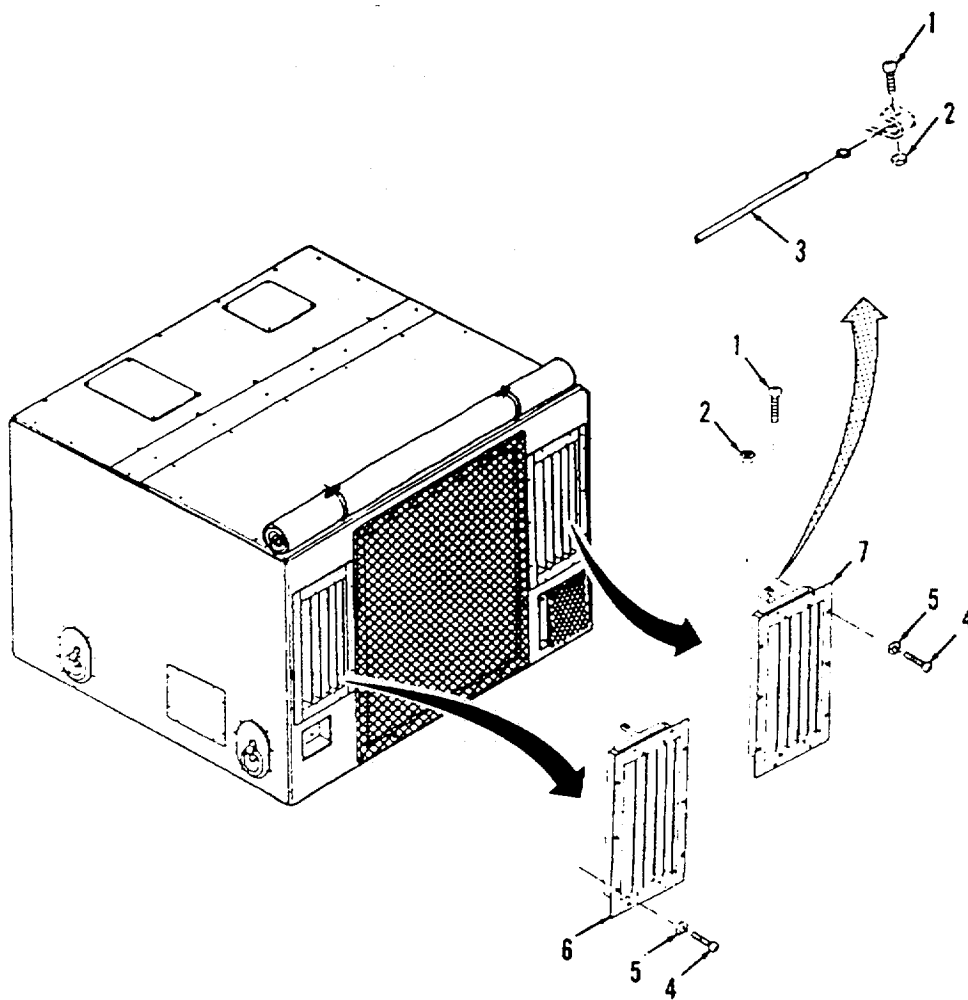
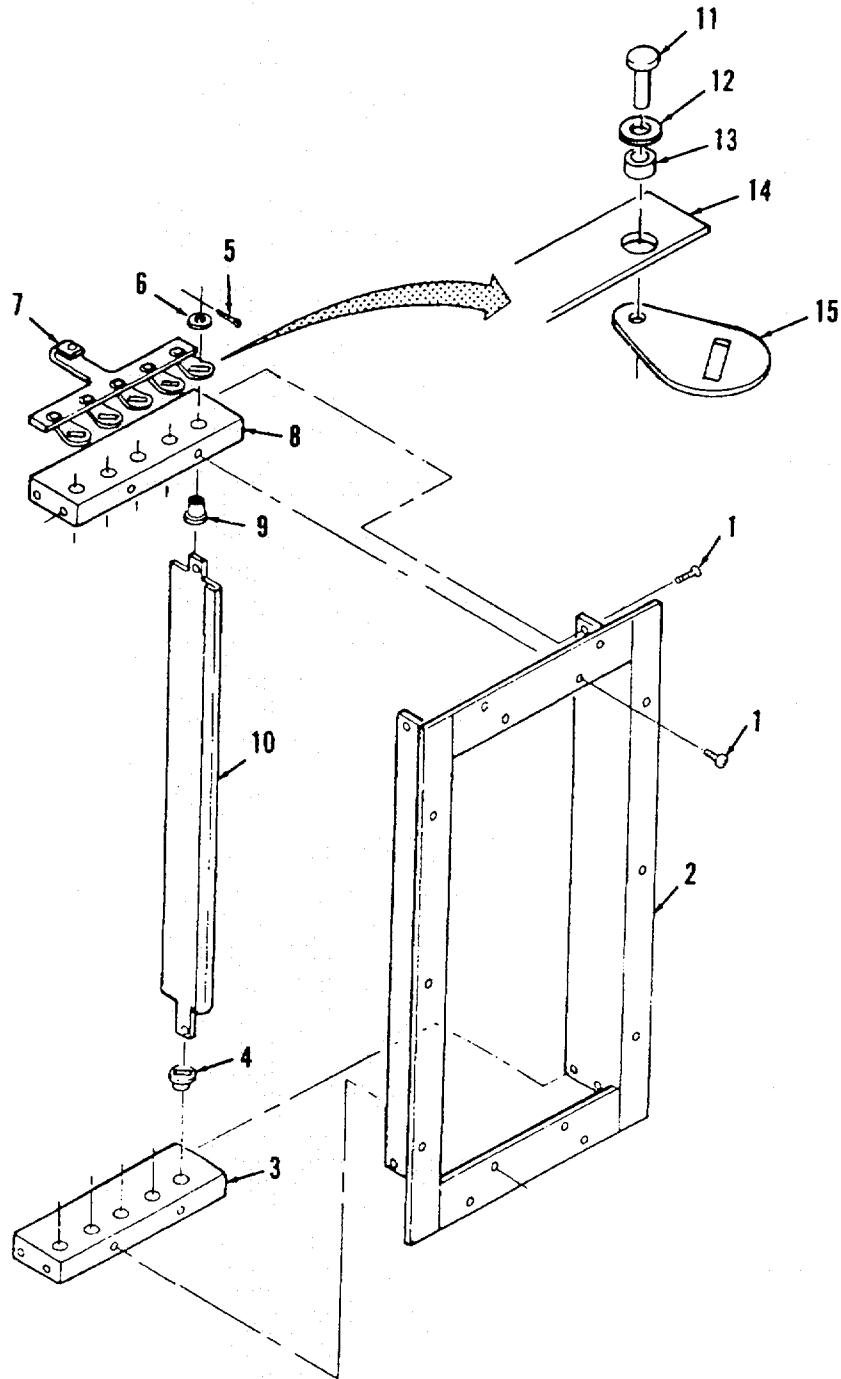

Figure 3-10. Condenser Exhaust Louvers.
Figure 3-11. Condenser Exhaust Louvers Disassembly.
**a. Removal.** (Refer to Figure 3-10).
- (1) Remove two screws (1) and two nuts (2) to disconnect cables (3) from exhaust louvers (6 and 7).
- (2) Remove ten screws (4), ten lock washers (5), and right condenser exhaust louver (6).
- (3) Remove ten screws (4), ten lock washers (5), and left condenser exhaust louver (7).
**b. Disassembly.** (Refer to Figure 3-11).
- (1) Remove twelve screws (1) and louver frame (2).
- (2) Remove lower bearing plate (3) and five bearings (4).
- (3) Disassemble five pins (5), five washers (6), connecting link (7), upper bearing plate (8), five bearings (9), and five louver blades (10).
- (4) Remove five rivets (11) and then disassemble five flat washers (12), five spacers (13), link (14), and five louver blade arms (15).
**c. Assembly.** (Refer to Figure 3-11).
- (1) Assemble five louver blade arms (15), link (14), five spacers (13), and five flat washers (12) and then install five rivets (11).
- (2) Install five louver blades (10), five bearings (9), connecting link (7), five washers (6), and five pins (5) onto upper bearing plate (8).
- (3) Install five bearings (4) and lower bearing plate (3).
- (4) Install louver frame (2) and twelve screws (1).
**d. Installation.** (Refer to Figure 3-10).
- (1) Install left condenser exhaust louver (7), ten lock washers (5), and ten screws (4).
- (2) Install right condenser exhaust louver (6), ten lock washers (5), and ten screws (4).
- (3) Place loops from cable (3) into louvers (6 and 7) and install two screws (1) and two nuts (2).
- (4) Install rear cover (see para. 3-27).